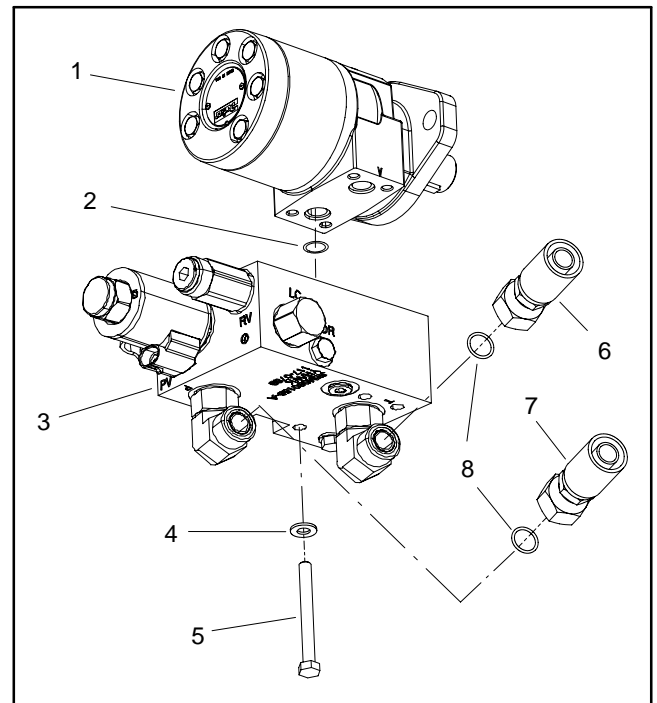

Figure 59
13. Remove two (2) flange head screws and flange nuts that secure hydraulic motor to motor mount plate. Remove mount plate from control manifold and motor assembly.
14. Remove four (4) cap screws and flat washers that secure control manifold to motor (Fig. 59). Separate control manifold from motor. Locate and discard two (2) O-rings from motor ports.
15. Remove set screws (item 6) that were loosened in coupler. Clean threads of set screws and coupler.
A. Lubricate two (2) new O-rings and place O-rings in motor ports.
C. Install and tighten four (4) cap screws and flat washers to secure assembly.
2. Position motor mount plate to motor and install two (2) flange head screws and flange nuts to motor and mounting bracket. Leave fasteners loose.
5. Rotate motor mount plate to insert the vibration mount stud into the plate hole. Secure plate to mount with flange nut (item 2).
6. Apply Loctite #242 (or equivalent) to threads of set screws (item 6). Install and tighten set screws into coupler to secure coupler to motor shaft.
7. Position guard (item 8) to motor mount plate making sure that guard fits around screws used to attach motor to mount plate. Tighten flange head screws and flange nuts to secure assembly.
8. Using labels placed during removal, lubricate new O-rings and install hydraulic hoses to correct hydraulic fittings on control manifold (Fig. 59) (see Hydraulic Hose and Tube Installation in the General Information section of this chapter).